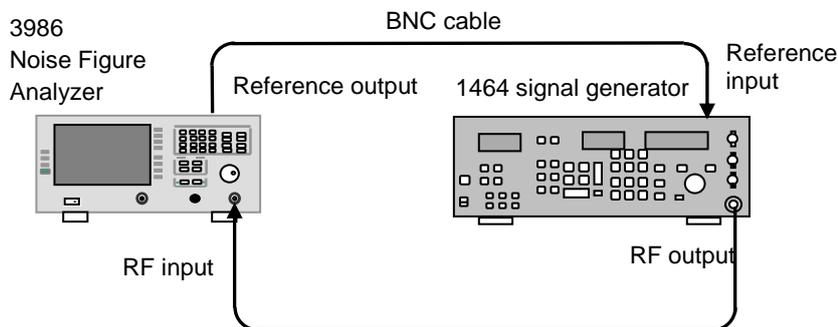

Figure 8.2 Test Block Diagram of Frequency Tuning Accuracy
Step 1. Connect the test equipment as shown in Figure 8.2 and warm it up for 30 min.